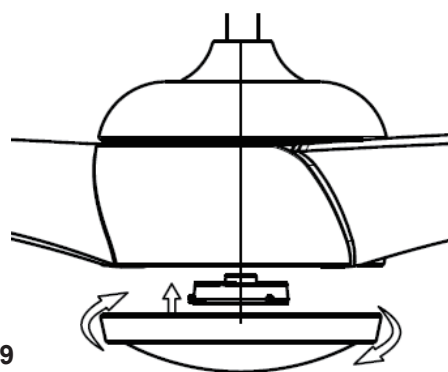

Fig. 9
- ◆ Finally, install the bottom cover to the lamp bracket by rotating it clockwise. Fig.9